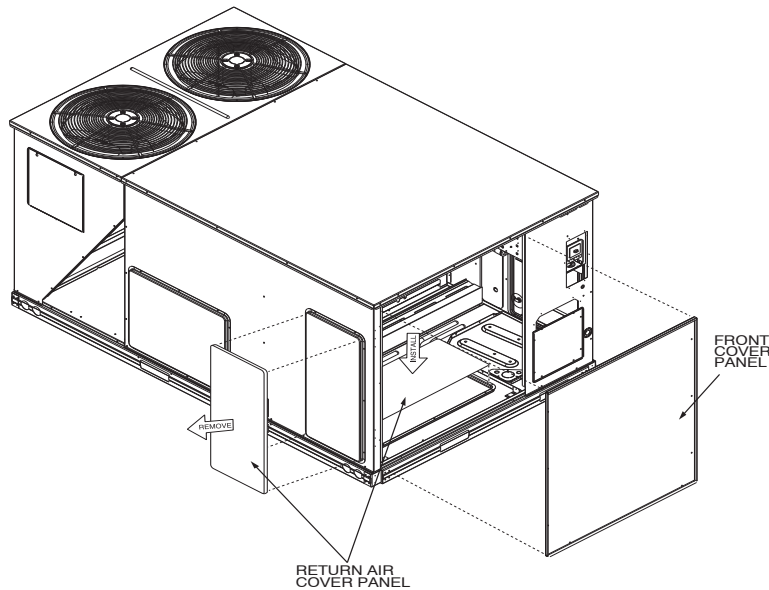

Fig. 13 – Horizontal Return Conversion
2. Unscrew and remove the front cover panel on the return end of the unit to expose the return section of the unit. (See Fig. 13.) Save the screws for later use. Retain screws and discard panel.
3. Unscrew and remove the cover panel shipped over the rooftop unit horizontal return air opening. (See Fig. 13.) Reinstall the panel over the vertical air opening in the base of the rooftop unit. Repeat the process for the supply air cover if using the EconoMiSer IV on a horizontal supply application. This step changes the unit configuration from vertical supply and return to horizontal supply and return. Refer to the 48/50PG installation instructions for more information on converting the unit supply/return configuration.